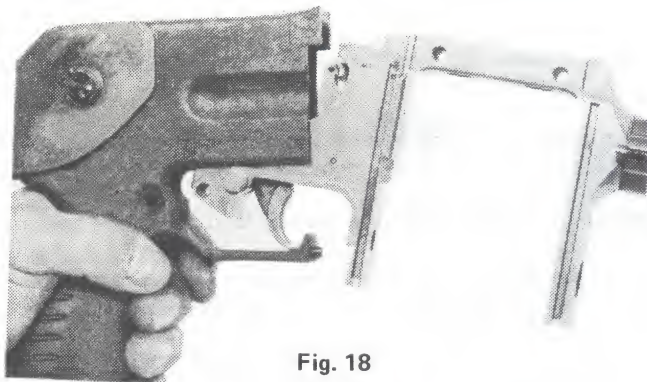

Fig. 18
3. Slide the pistol grip backwards and downwards so that the trigger guard clears the trigger. (Fig. 18).